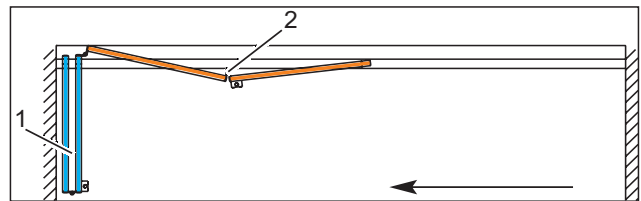

Fig. 14 Folded inside panel pair – FSW EASY Safe
→ The inside panel pair is folded (Fig. 14/1).
3. Carefully open and fold together the outside panel pair (Fig. 14/2). Hold the panel steady when sliding.